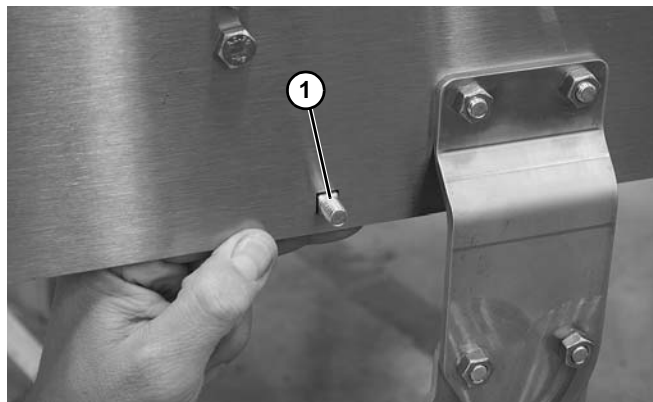

Figure 27
1. Install carriage bolt (**Figure 27, item 1**) through frame rail.